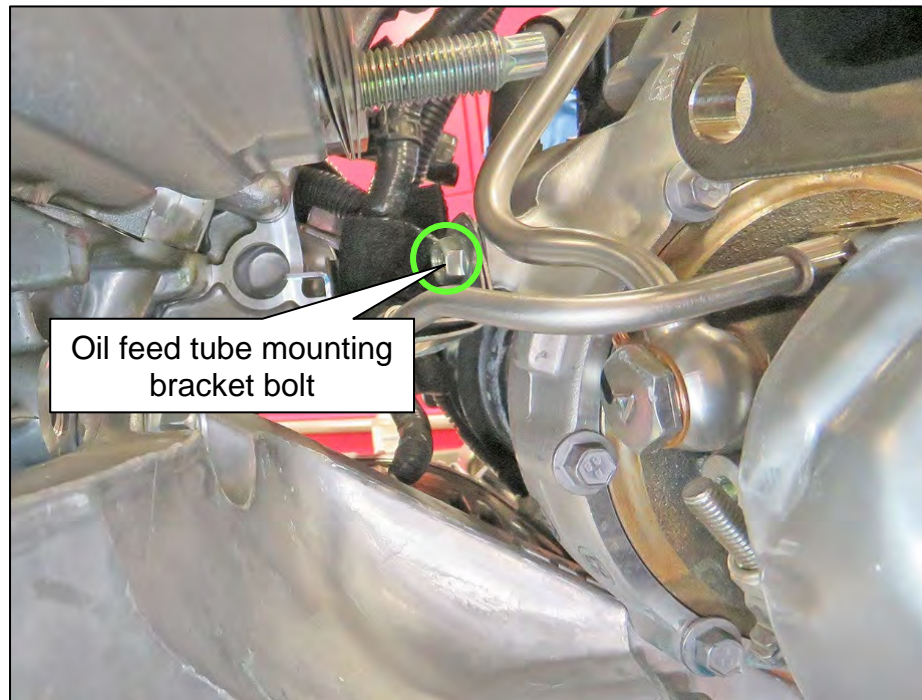

Figure 54
82. Gently remove the turbocharger from its mounting studs so that the oil line mounting bracket bolt can be reached (Figure 54).
83. Remove the oil feed tube mounting bracket bolt shown in Figure 54.